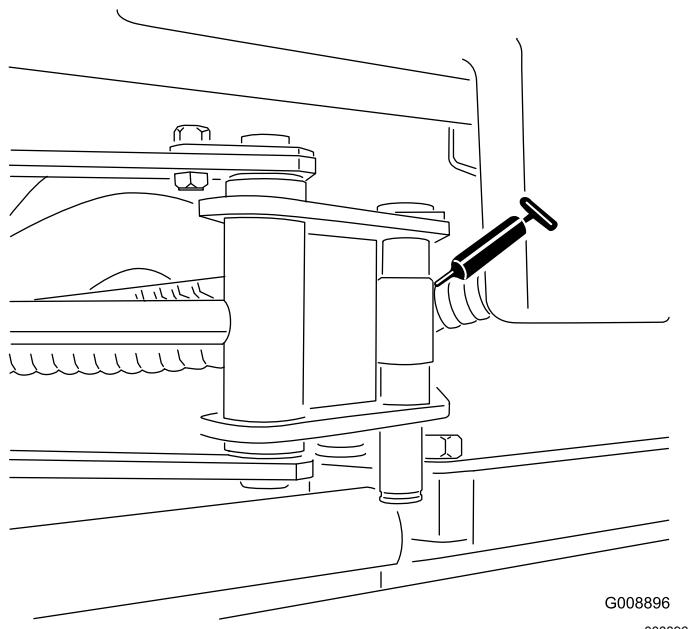

Figure 33
- SideWinder cylinder ends (2) (Figure 33)